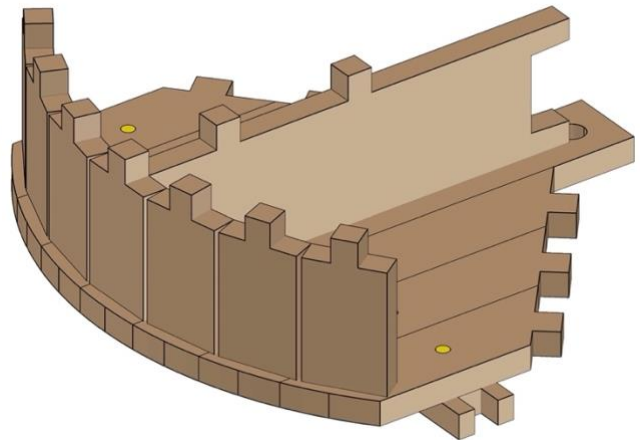

Fig. 78
- *Fig. 78* shows the completed process.